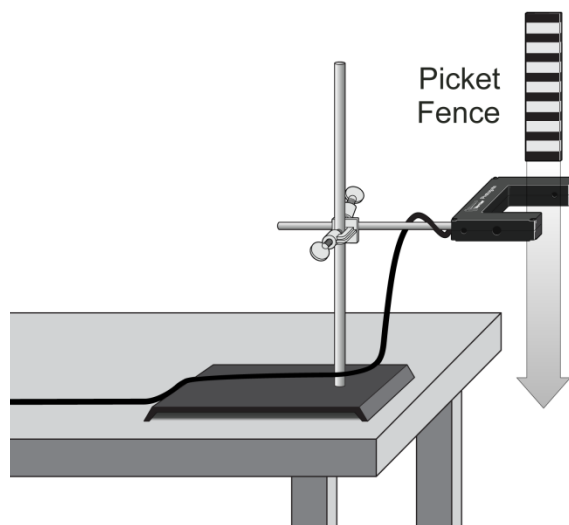

Figure 1
1. Fasten the Photogate rigidly to a ring stand so the arms extend horizontally, as shown in Figure 1. The entire length of the Picket Fence must be able to fall freely through the Photogate. To avoid damaging the Picket Fence, provide a soft landing surface (such as a carpet).